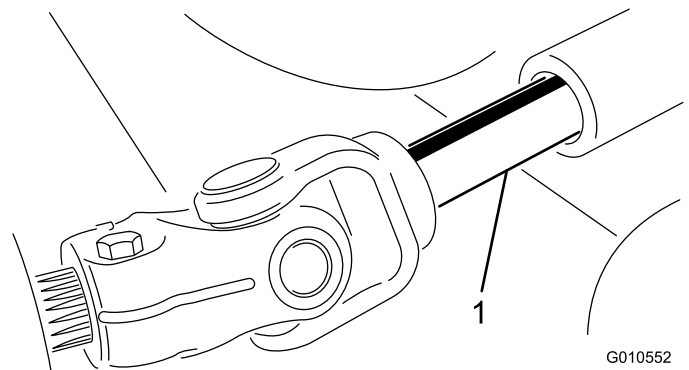

Figure 25
5. Roll the cutting unit away from the traction unit, separating the male and female sections of the PTO shaft (Figure 25).
3. Slide the male PTO shaft into the female PTO shaft (Figure 25).